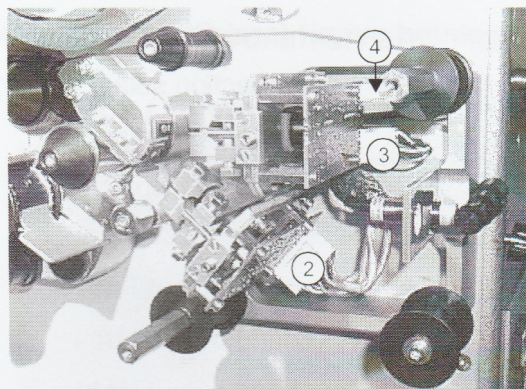

Figure 2-10 Plugs on boards
Connections (see figures 2-10 → 2-11)
(not visible in figure 2-10) | → ① wires for power supply on board |